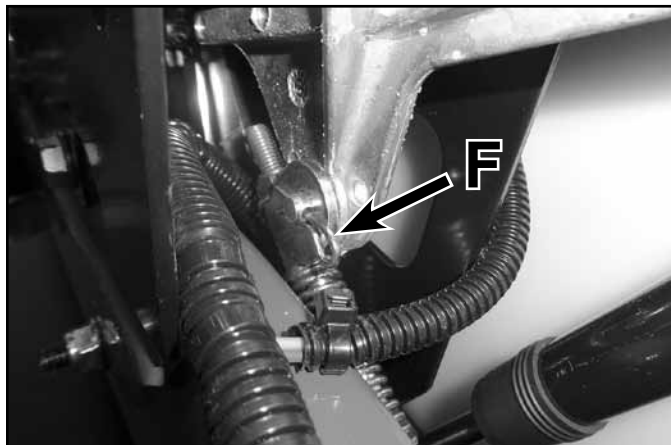

Fig. 023
9. Remove the motion control rod clips and pins (F) (Fig. 023).